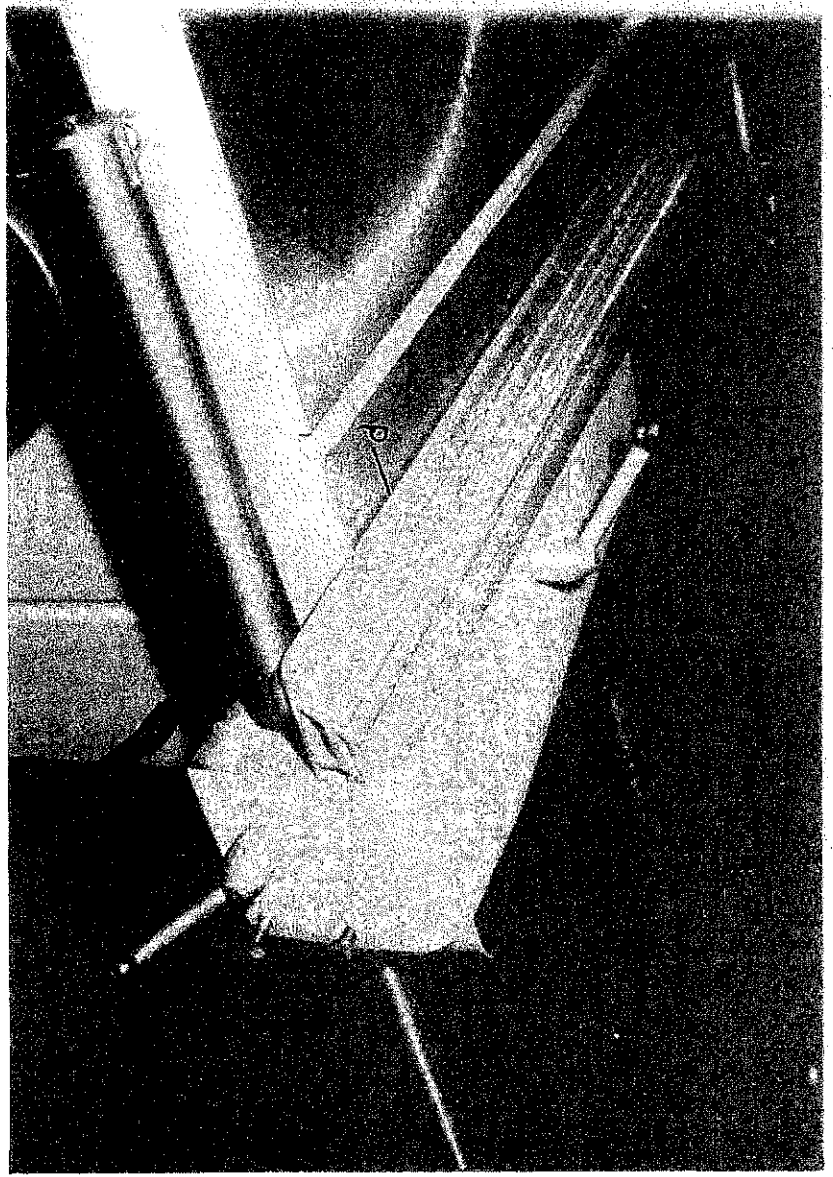

FIG.12
The fence plate "P" FIG. 10 has two positions. Position shown in FIG. 10 is for use with deep stock, fence can be moved longitudinally to facilitate this. Position shown in FIG. 12 is for use with faced panels, melamine, veneer, etc.
- b) Slide fence plate over the locking plate to position shown FIG. 12, relock locking handle "R".